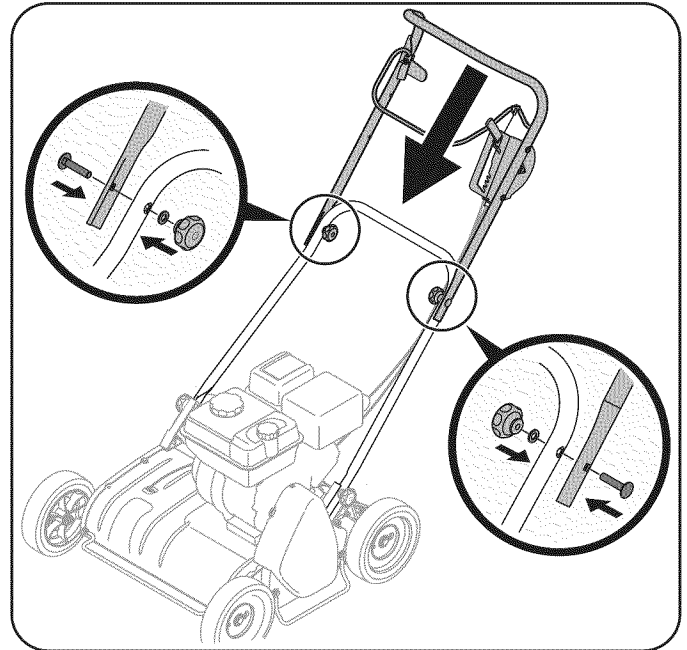

Figure 2
5. Insert knobs into top hole of the lower handle and bottom hole of the upper handle and tighten. See Figure 2.